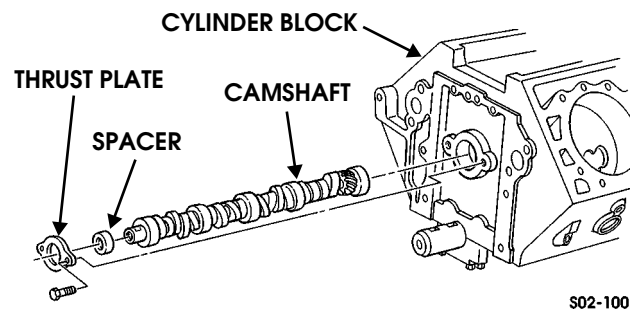

Figure 2-117: Camshaft Removal
1. Remove thrust plate and spacer (Figure 2-117).